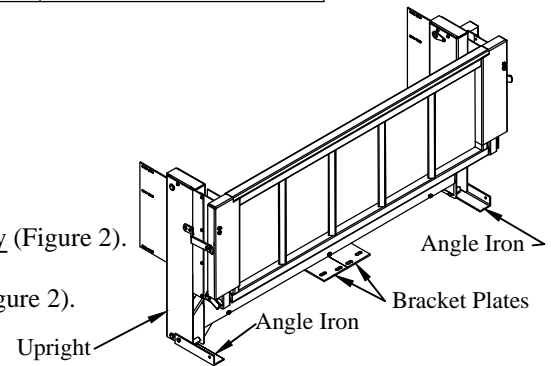

Figure 2: Complete liftgate (**G²** shown).
4. Unbolt and Save the two (2) angle irons attached to the liftgate uprights- **G²** only (Figure 2).
5. Remove and Save the two (2) bracket plates attached to the liftgate- **G²** only (Figure 2).